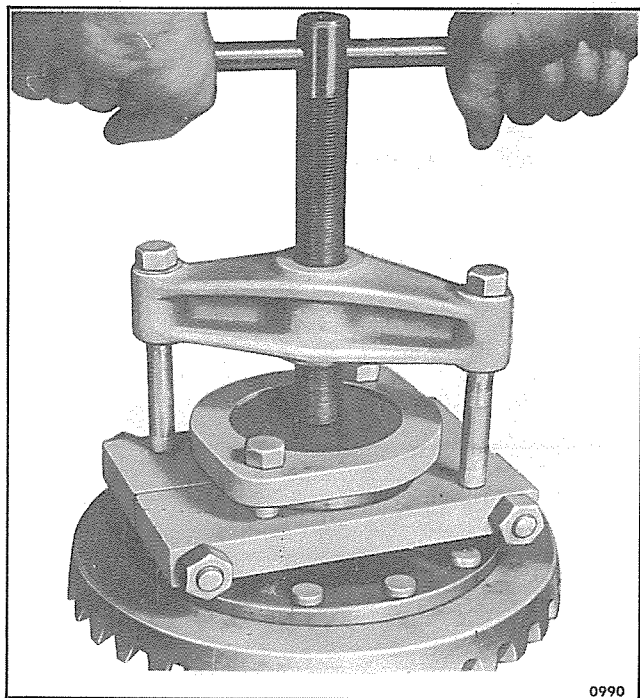

Figure 3—Removal of Differential Side Bearings (Tool No. CS-1047)
2. Remove side bearings (33) from each half of case, using special bearing puller CS-1047 (fig. 3).
3. Remove lock wire and nuts (5) from the bolts (9) which hold the two halves of differential case (18) together; then separate case (18).
4. Remove side gears (17), thrust washers (16) and (6), spider (7) and pinions (4).
5. If either drive gear (8) or pinion (25) are worn or damaged, both must be replaced as a matched set. Never replace pinion or ring gear alone.